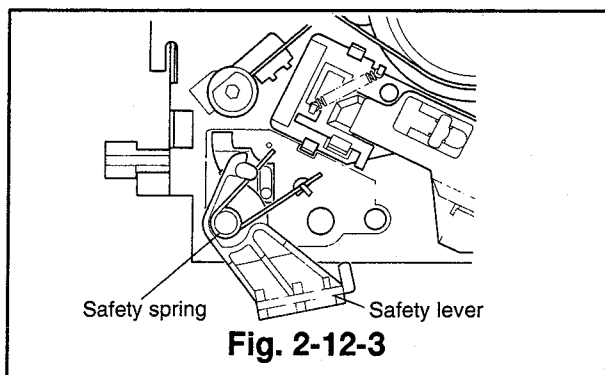

Fig. 2-12-3
- ② Fix the safety spring to the shaft of the safety lever and hook it as shown in Fig. 2-12-3.
- ③ Install the cassette housing. (Refer to Para. 2-1 for the installation method.)